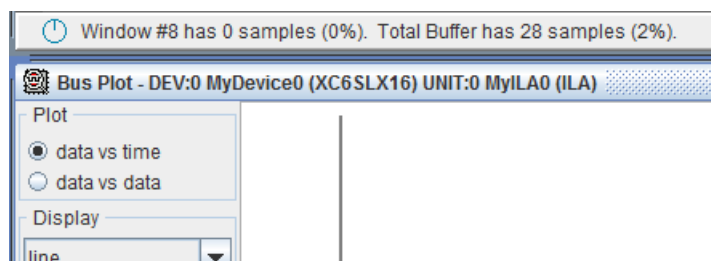

Figure 16: The Status Bar
3. Push the *Sine Wave Sequencer* button on the SP601 board. Each button push generates one or more “windows” that show segments of time on the time axis of the waveform. Observe the number of windows captured in the status bar that appears just below the capture settings. (The status bar is shown in Figure 16.) If more than one window is captured with a single push of the button, you have determined that there is an issue on the `GPIO_BUTTON[1]` input. If only one window is captured, try again. You might have to push the button several times to reproduce this intermittent glitch.